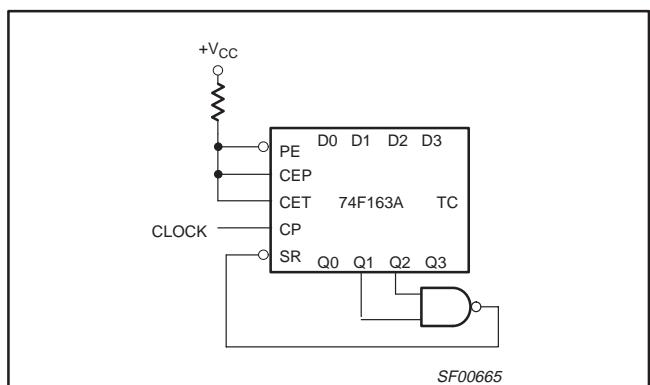
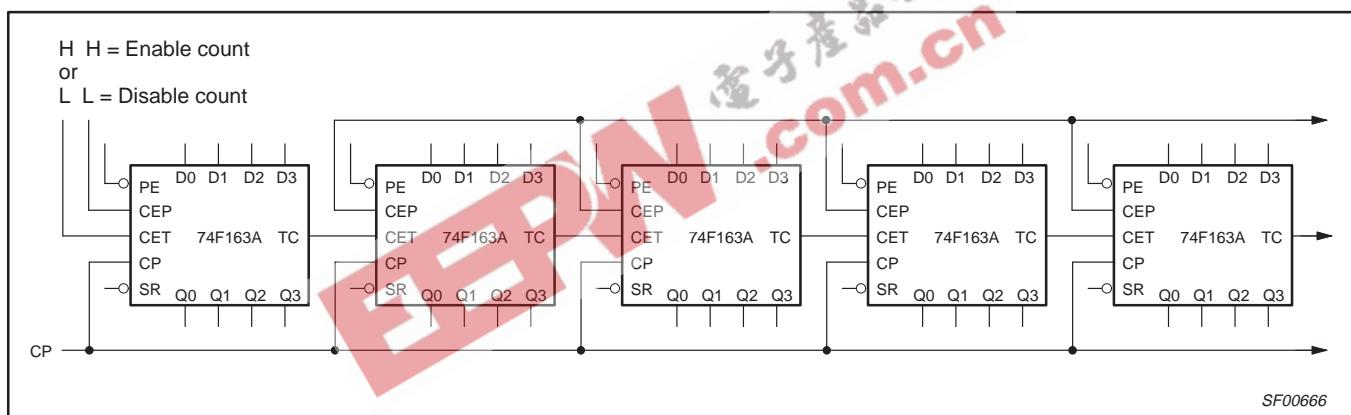

Figure 1. Maximum count modifying scheme
Figure 2. Synchronous multistage counting scheme
A Low level at the Master Reset (\bar{MR}) input sets all the four outputs of the flip-flops (Q0 – Q3) in 74F161A to Low levels, regardless of the levels at CP, \bar{PE} , CET and CEP inputs (thus providing an asynchronous clear function). For the 74F163A, the clear function is synchronous. A Low level at the Synchronous Reset (\bar{SR}) input sets all four outputs of the flip-flops (Q0 – Q3) to Low levels after the next positive-going transition on the clock (CP) input (provided that the setup and hold time requirements for \bar{SR} are met). This action occurs regardless of the levels at \bar{PE} , CET, and CEP inputs. The synchronous reset feature enables the designer to modify the maximum count with only one external NAND gate (see Figure 1). The carry look-ahead simplifies serial cascading of the counters. Both Count Enable (CEP and CET) inputs must be High to count. The CET input is fed forward to enable the TC output. The TC output thus enabled will produce a High output pulse of a duration approximately equal to the High level output of Q0. This pulse can be used to enable the next cascaded stage (see Figure 2). The TC output is subjected to decoding spikes due to internal race conditions. Therefore, it is not recommended for use as clock or asynchronous reset for flip-flops, registers, or counters.